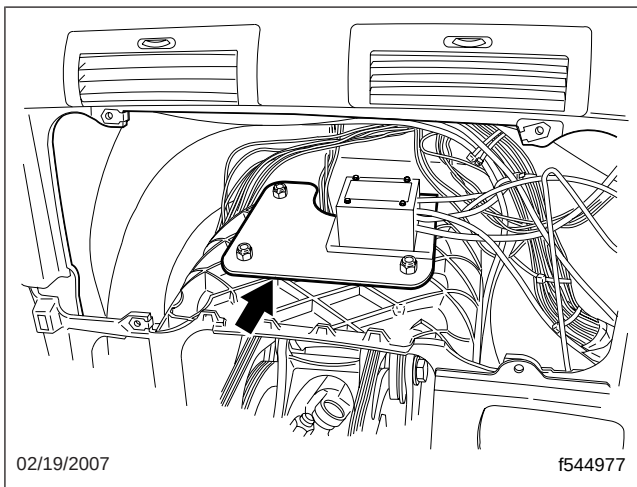

Fig. 5, Antenna Multiplier Plate
14. From underneath, remove the four screws that attach the antenna multiplier plate, on top of the steering column, to the dash. Remove the plate and the antenna multiplier; see Fig. 5.